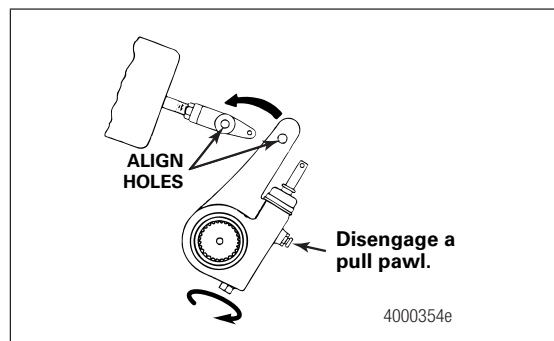

Figure 5.11
- Disengage the pull pawl. Turn the manual adjusting nut to align the holes in the slack adjuster arm and clevis. Figure 5.11.